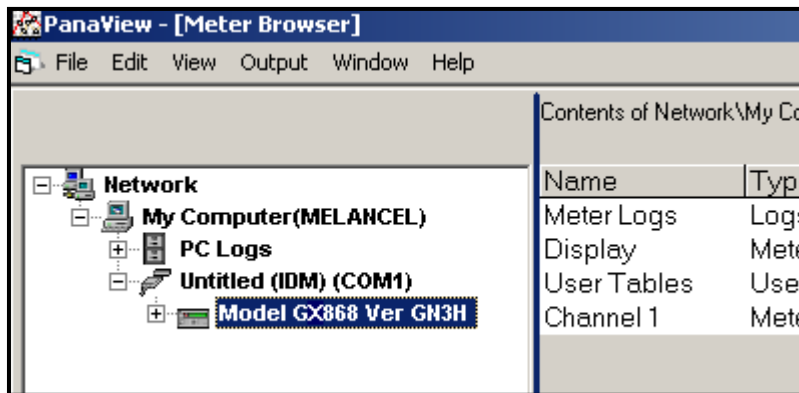

Figure 22: The Updated Network Tree
If the initialization is successful, the Meter Browser shows a listing similar to Figure 22 below.
1. Highlight the meter (as shown in Figure 22 on page 93).